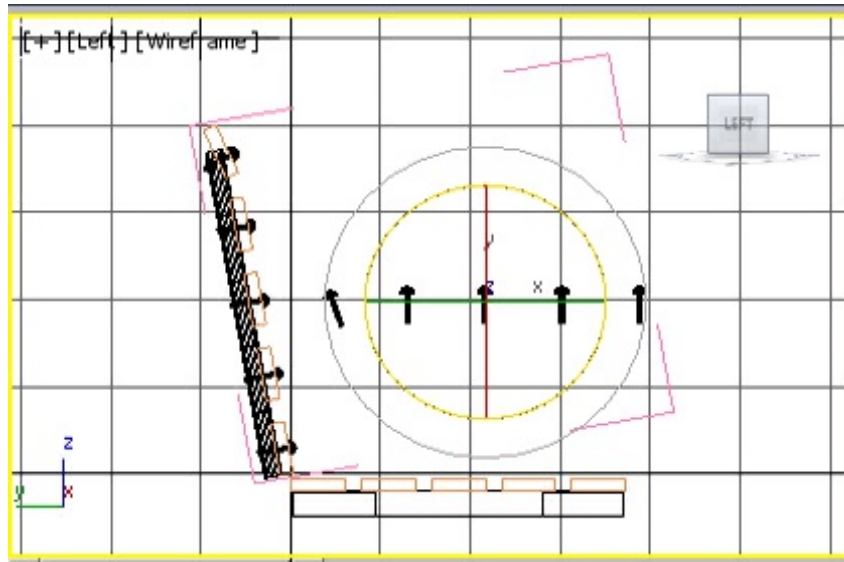

Figure 2-92 Rotating the right side seat rivets group in the Left viewport
8. Choose the **Select and Rotate** tool and select *right side seat rivets* in the Left viewport. Then, move the cursor over the Z-axis. Now, press the left mouse button and drag the cursor in the counterclockwise direction to rotate *right side seat rivets* until the angle of rotation in the **Z** spinner becomes **80**, refer to Figure 2-92.